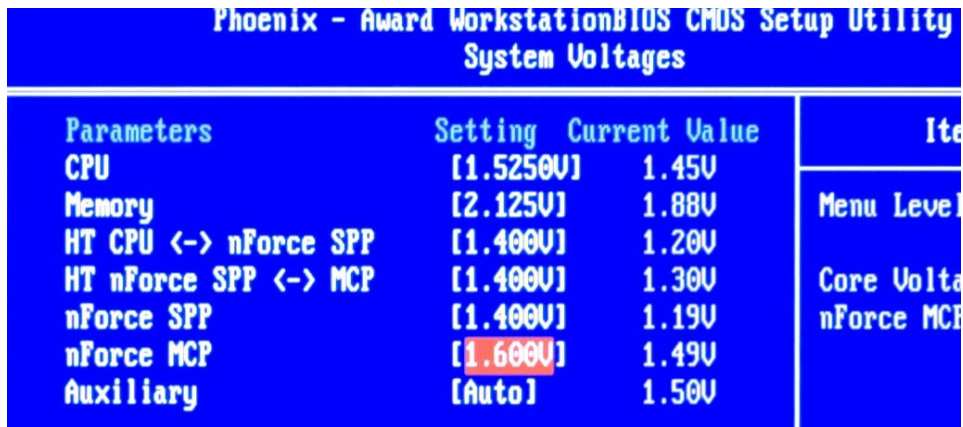

Figure 12. BIOS System Voltages Configuration for Memory Overclocking
2. Go to the **System Voltages** BIOS menu shown in Figure 12 to increase the **Memory** voltage to 2.125 V. To achieve higher clocks, it is often required to increase voltage levels while maintaining low device temperatures.